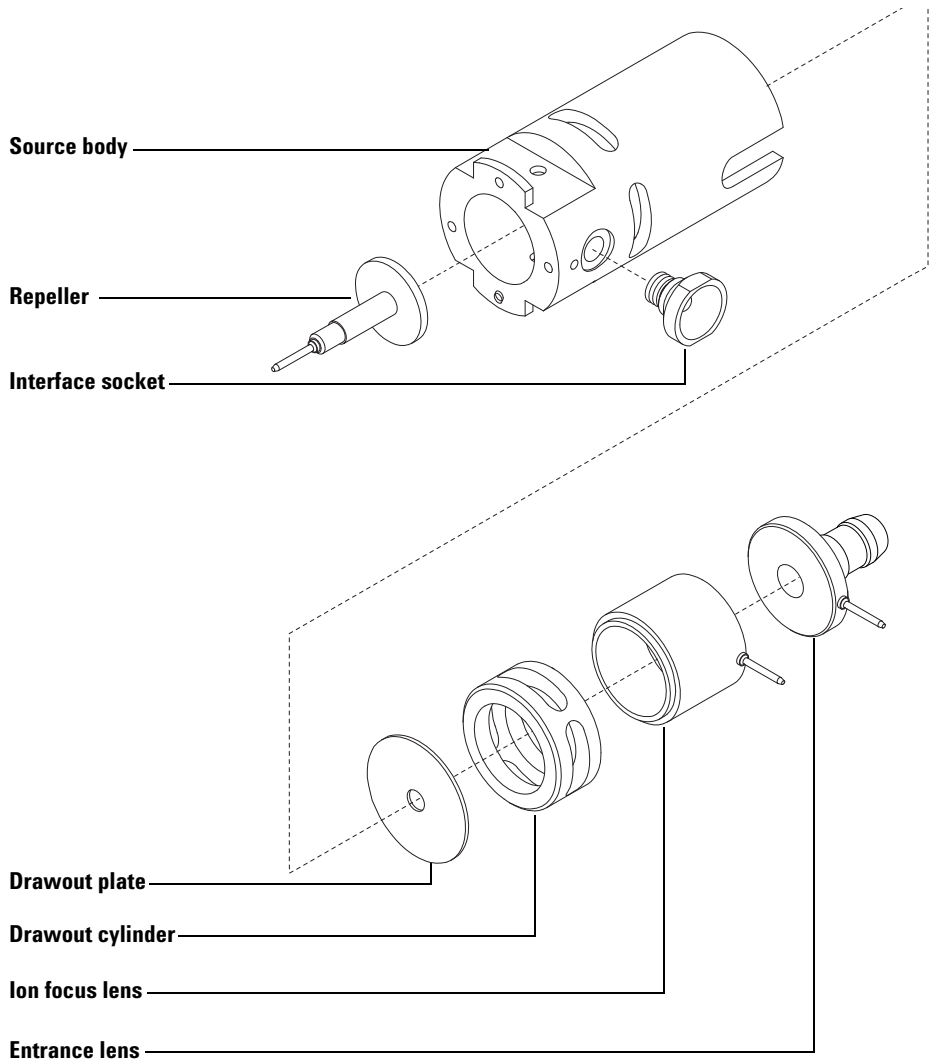

Figure 21 Source parts to be cleaned
- 2 Collect the following parts to be cleaned: (Figure 21)